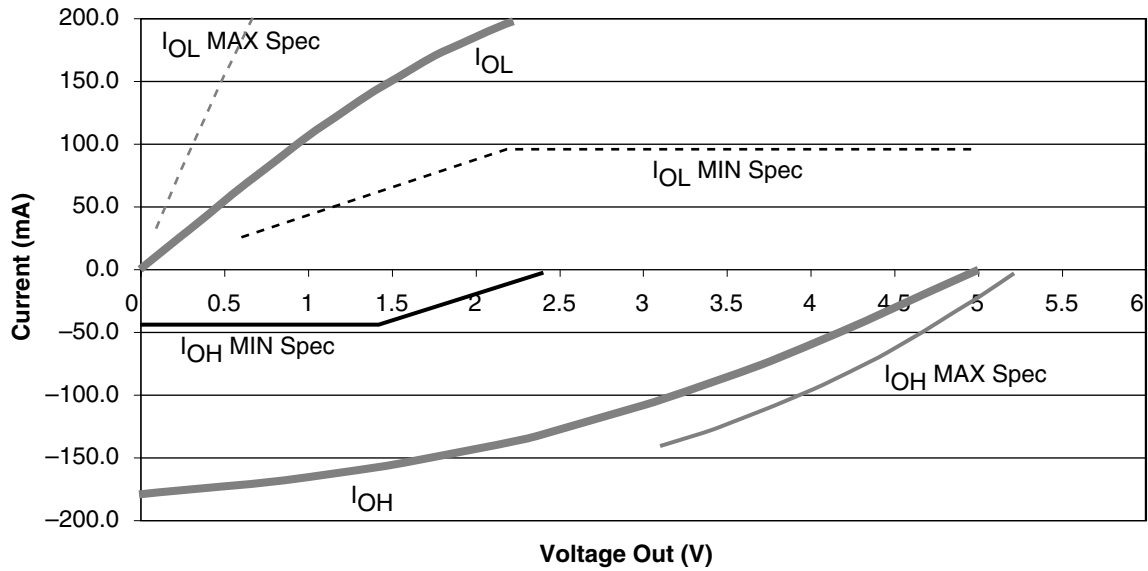

Figure 8 • 5.0V PCI Curve for SX-A Family
1. Refer to the V/I curves in Figure 8 on page 14. Switching current characteristics for REQ# and GNT# are permitted to be one half of that specified here; i.e., half size output drivers may be used on these signals. This specification does not apply to CLK and RST#, which are system outputs. "Switching Current High" specifications are not relevant to SERR#, INTA#, INTB#, INTC#, and INTD#, which are open drain outputs.
3. Maximum current requirements must be met as drivers pull beyond the last step voltage. Equations defining these maximums (A and B) are provided with the respective diagrams in Figure 8 on page 14. The equation defined maxima should be met by design. In order to facilitate component testing, a maximum current test point is defined for each side of the output driver.
Figure 8 shows the 5.0V PCI V/I curve and the minimum and maximum PCI drive characteristics of the SX-A family.